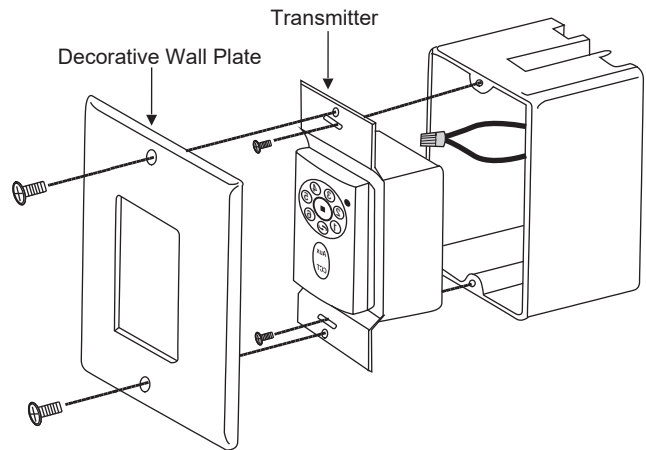

Figure 19
b. Carefully tuck the wire connections inside the outlet box. Use the screws provided to secure the wall transmitter and wall plate to the outlet box. (Fig. 19)